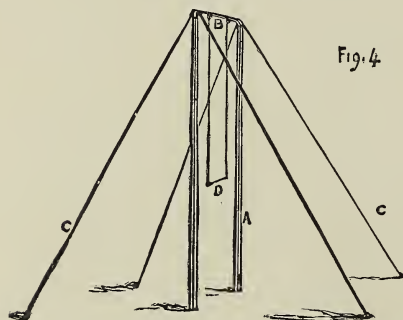

Fig. 4
Fig. 4 represents a very simple way of forming the uprights for a swing. It consists of two scaffold poles, or more correctly speaking, Norway spars (the same as used for ladder-making when they have been sawn down the centre). They may be procured at any ladder-makers, with the bark taken off and properly trimmed. The top should be 2 in. in diameter, and the bottom $3\frac{1}{2}$ to 4 inches. The cross-piece (B) to which the ropes are fastened is formed of 2-in. gas barrel, *i.e.* iron tubing, and is measured by the calibre or inside diameter, therefore 2-inch gas tubes will measure about $2\frac{1}{2}$ inches outside diameter. The elbows, which are bought already screwed, would have to be fitted with iron staples riveted to them, to fasten the wire rope to, and two hooks also riveted through the tube, made of $\frac{1}{2}$ -in.-diameter iron, 18 inches apart, for attaching the swing.
The four stays (F F F F) and stakes (G G G G) just the same as described in Fig. 4.